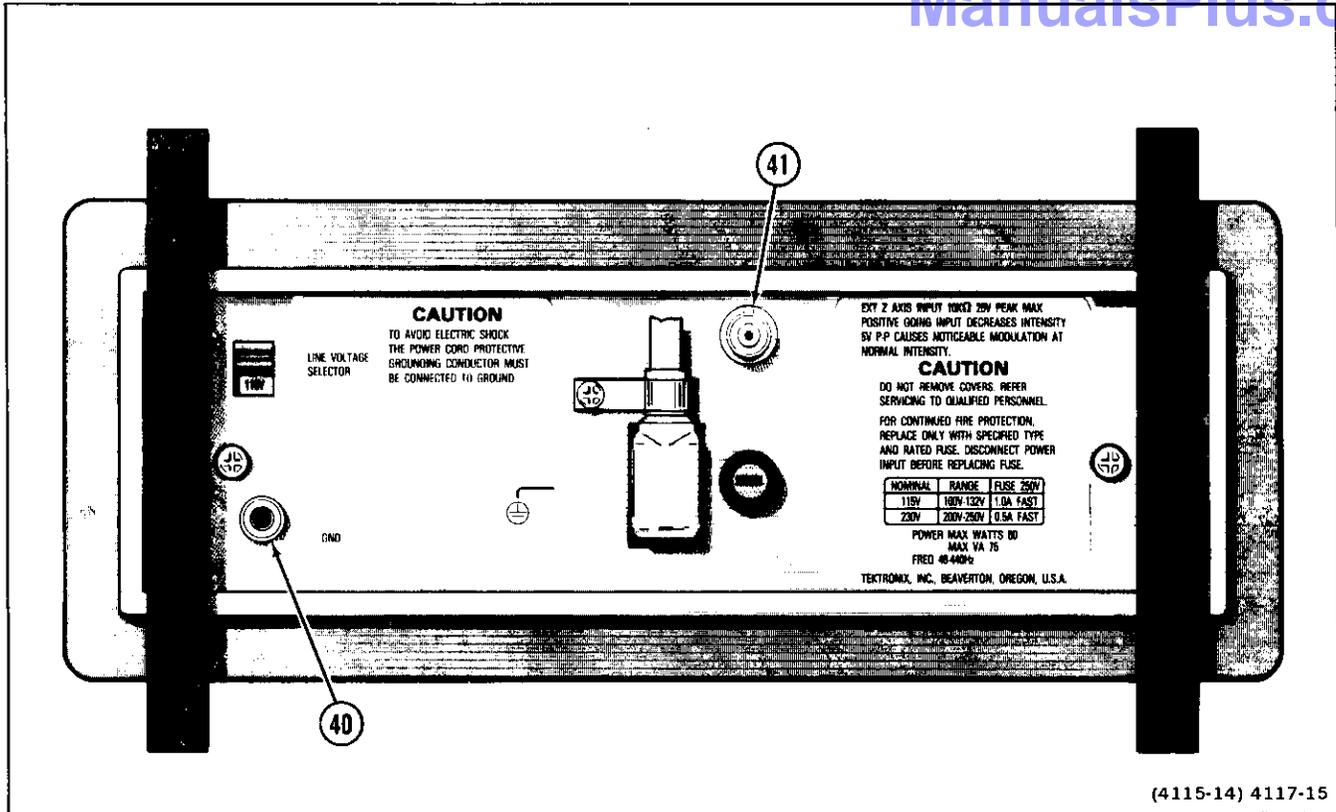

Figure 8. Rear-panel connectors.
Refer to Figure 8 for location of items 40 and 41.